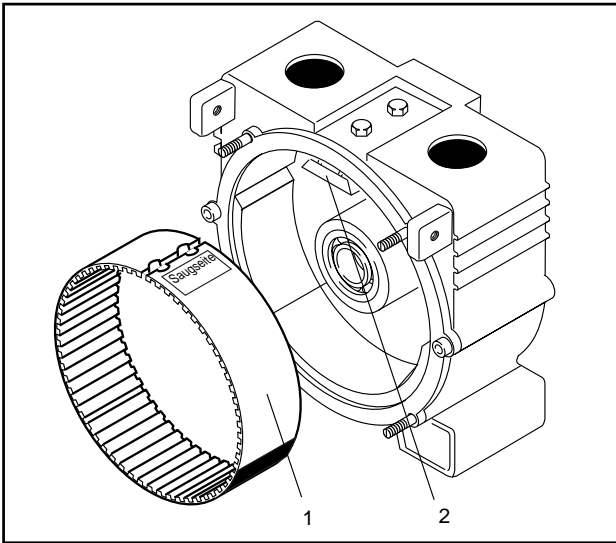

Fig. 13 1 Separating belt
2. Insert the new separating belt into the holder with the teeth towards the inside (Fig. 13).